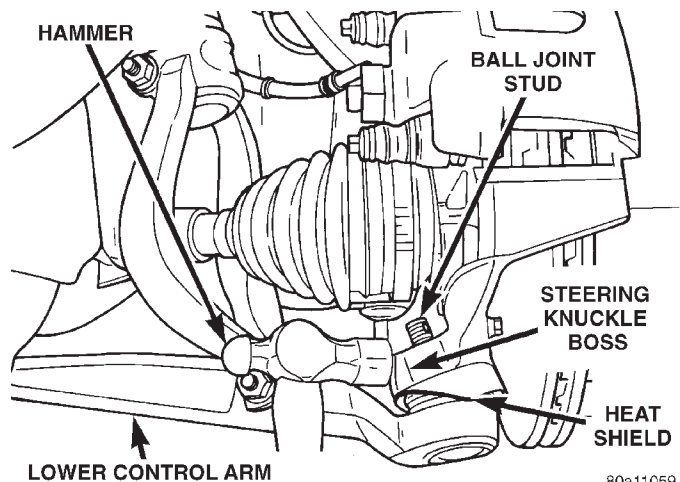

Fig. 48 Separating Ball Joint Stud From Steering Knuckle
(13) Turn steering knuckle so the front of the steering knuckle is facing as far outboard in the wheel well as possible. Using a hammer strike the boss on the steering knuckle, (Fig. 48) until the steering knuckle separates from the stud of lower ball joint.